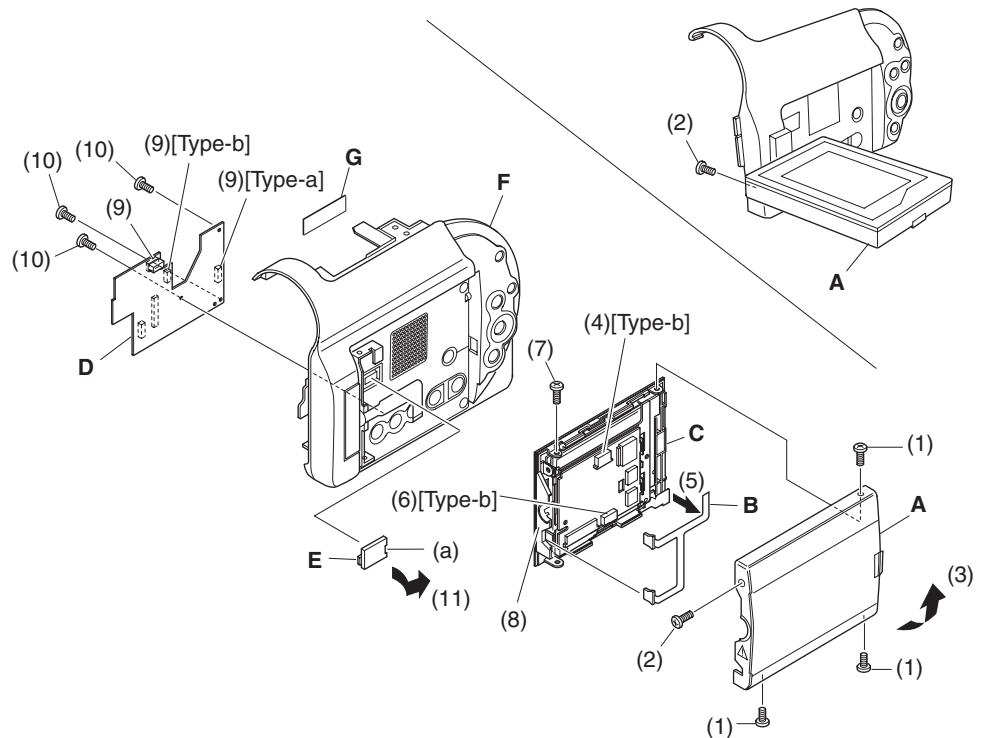

Fig. 4-3
4.3 LCD case U, MR circuit board, LCD block, AUD circuit board, Adjustment cap, and L case (Fig. 4-3)